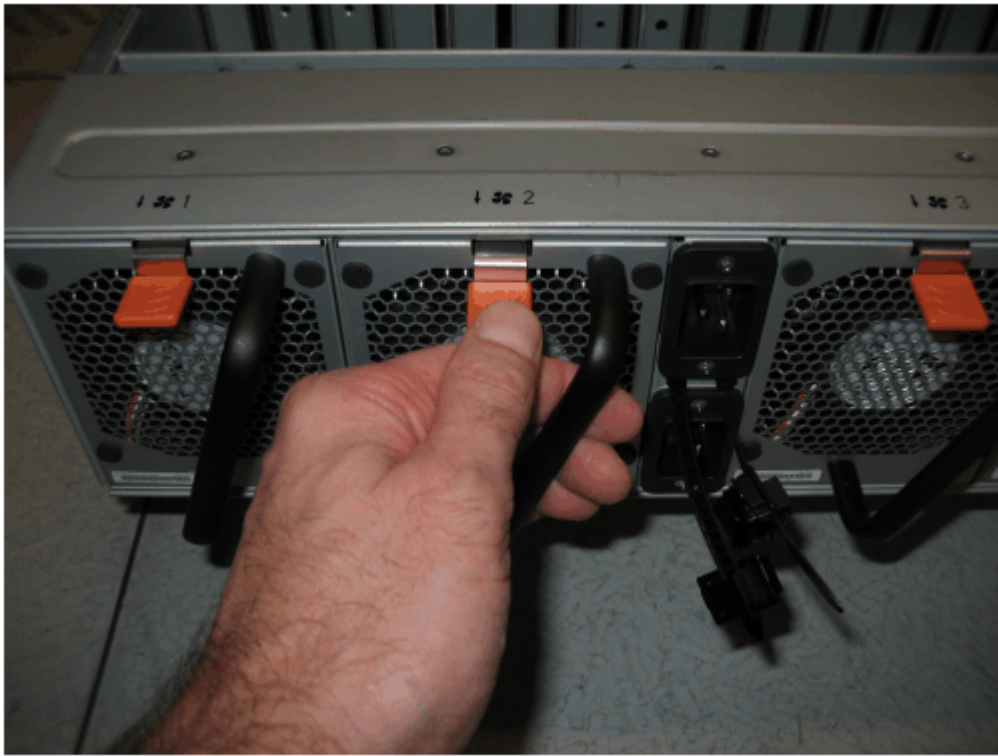

Figure 157. Fan module release tab
2. Press the release tab on the fan module, as Figure 157 on page 204 shows.